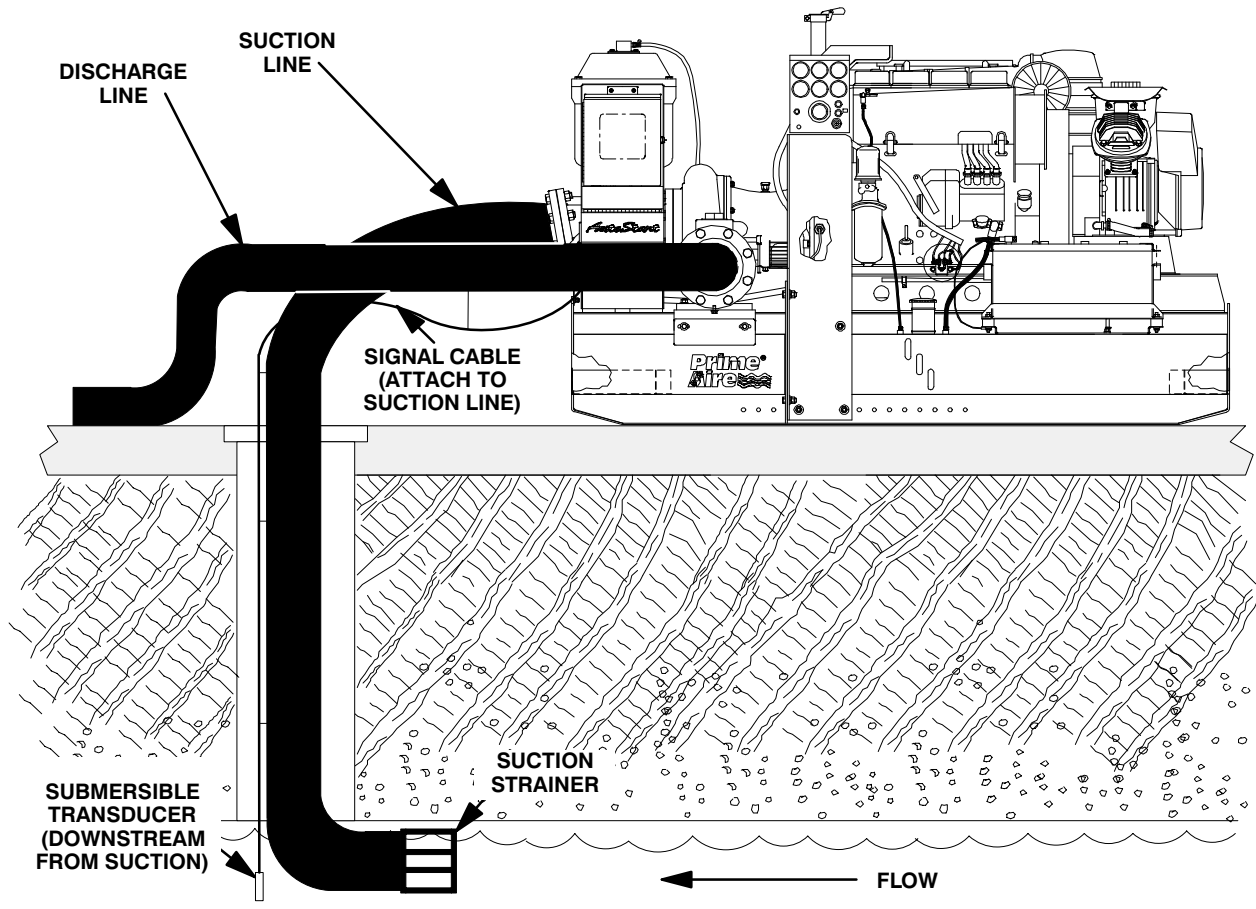

Figure B-6. Submersible Transducer AutoStart Pump Installation
- b. **Be sure** to provide sufficient room in the wet well or sump so that the sensor does not get drawn into the suction line. To prevent this, a flexible suction hose may be extended to lay along the bottom of the wet well or sump. The sensor can then be attached to the hose above the point where it bends along the bottom. See Figure B-6 for a typical installation.